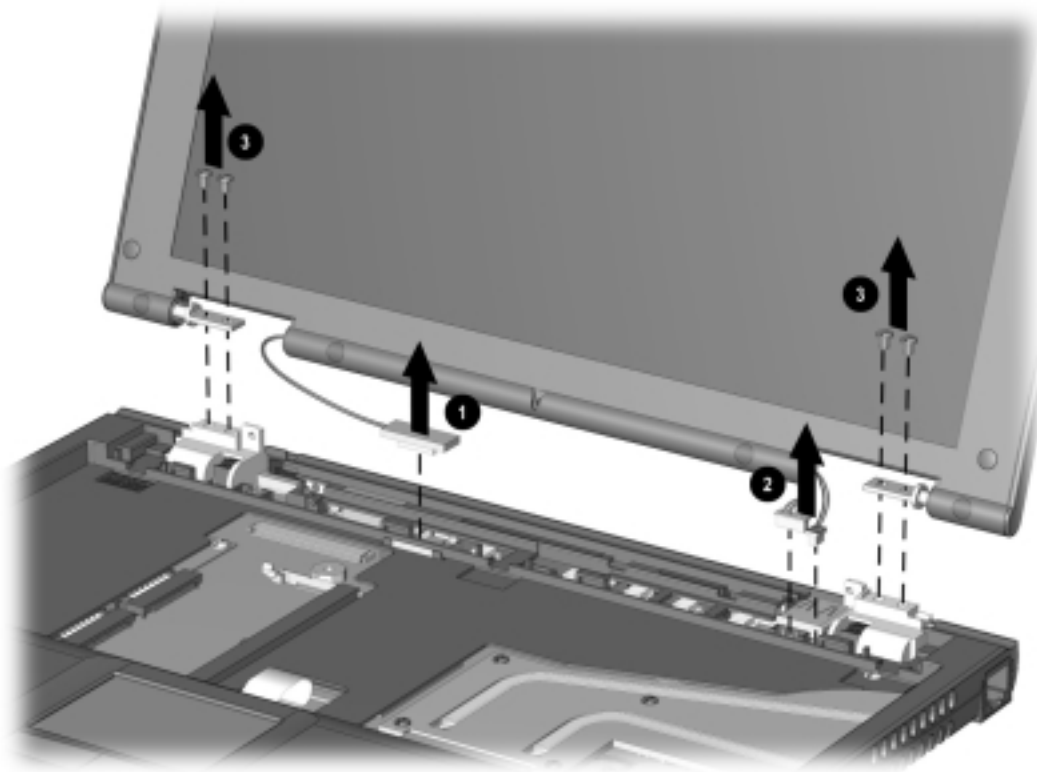

Figure 5-20. Removing the Display Assembly
4. Use the connector removal tool to disconnect the inverter cable ❶ from the system board (Figure 5-20).
5. Use the connector removal tool to disconnect the microphone cable ❷ and the video cable ❸ from the system board.
7. Remove the four screws (two on each hinge) ❹ that secure the display assembly to the base assembly.